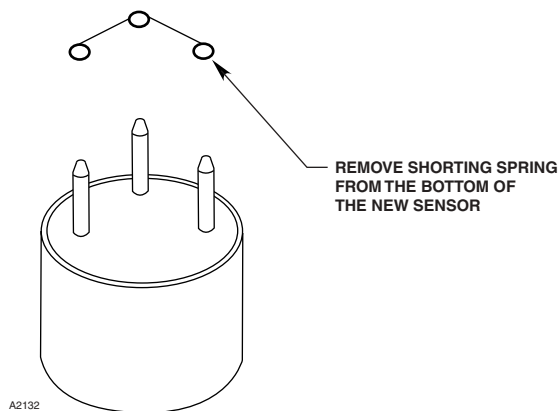

Figure 5—Shorting Spring on Replacement Sensor
4. Remove the shorting spring from the bottom of the new sensor (see Figure 5).